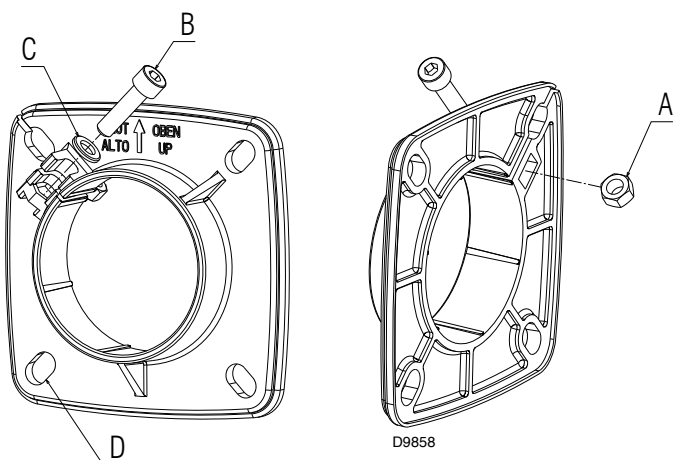

Fig. 8
- Place the HM8 nut reference A)(Fig. 8), supplied in the fittings pack, at the back of the flange. Thread the CHC M8 x 30 screw B) with an M8 washer C) at the front.